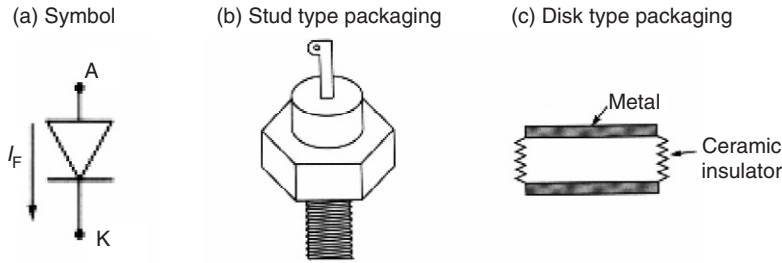

FIGURE 2.1 Power diode: (a) symbol; (b) and (c) types of packaging.
Among all the static switching devices used in power electronics (PE), the power diode is perhaps the simplest. Its circuit symbol is shown in Fig. 2.1. It is a two terminal device, and terminal A is known as the anode whereas terminal K is known as the cathode. If terminal A experiences a higher potential compared to terminal K, the device is said to be forward biased and a current called forward current ( $I_F$ ) will flow through the device in the direction as shown. This causes a small voltage drop across the device ( $<1V$ ), which in ideal condition is usually ignored. On the contrary, when a diode is reverse biased, it does not conduct and a practical diode do experience a small current flowing in the reverse direction called the leakage current. Both the forward voltage drop and the leakage current are ignored in an ideal diode. Usually in PE applications a diode is considered to be an ideal static switch.